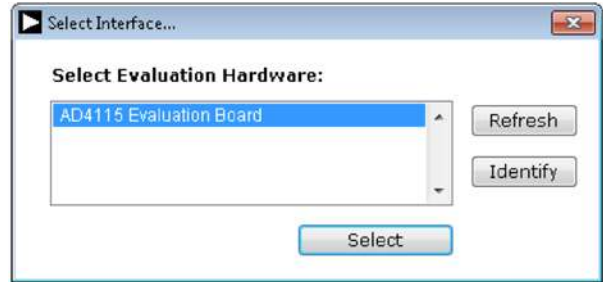

Figure 13. **AD4115** Evaluation Board Selection
1. From the **Start** menu, click **Programs > Analog Devices > AD411x Eval+ > AD411x Eval+.exe**. The dialog box shown in Figure 13 appears. Select **AD4115 Evaluation Board** and the main window of the software shown in Figure 16 appears.
2. If the EVAL-AD4115SDZ is not connected to the USB port via the **SDP** when the software is launched, the software displays the dialog box shown in Figure 14. Connect the EVAL-AD4115SDZ to the USB port of the PC, wait a few seconds, then click **Refresh**, and the dialog box shown in Figure 13 then appears.
After selecting AD4115 Evaluation Board, shown in Figure 13, the main window of the evaluation software displays, as shown in Figure 16. The Configuration tab shows the control buttons and analysis indicators of the AD411x Eval+ software. The main window of the AD411x Eval+ software in quick start mode contains four tabs: Configuration, Voltage Waveform, Noise Table, and Histogram.